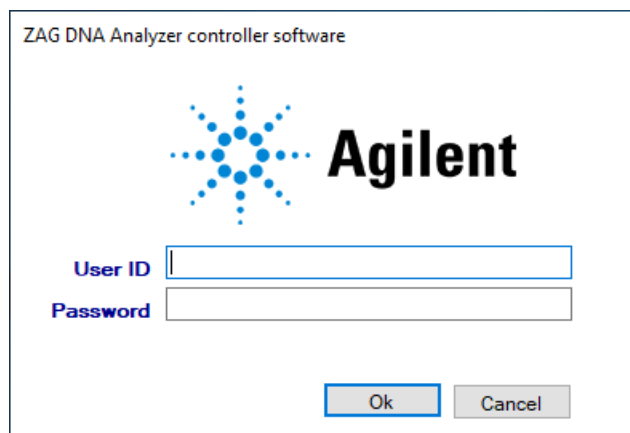

Figure 10 Login menu
- 2 To login to the ZAG DNA Analyzer software, type **Administrator** or **User** into the **User ID** field of the login window (Figure 10).
After logout the login menu opens (**Figure 10**).